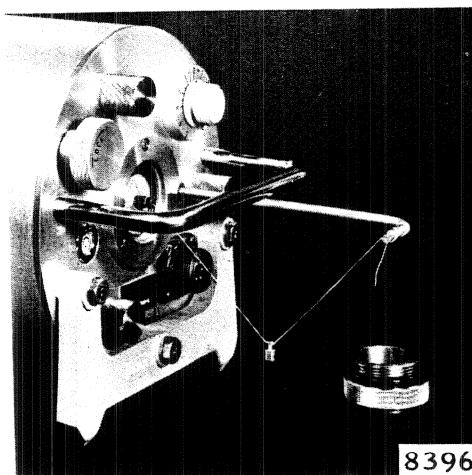

Figure 9. Horizontal weight lift
- d. Screw the horizontal weight-lift hook into the threaded hole in the calibration-coil support (96) a few turns and lock it with the jam nut so that the flat is in line with the center axis of the seismometer.
- f. Run the other loose end over the edge of the flat and through the hole in the horizontal weight-lift hook as shown in figure 9.